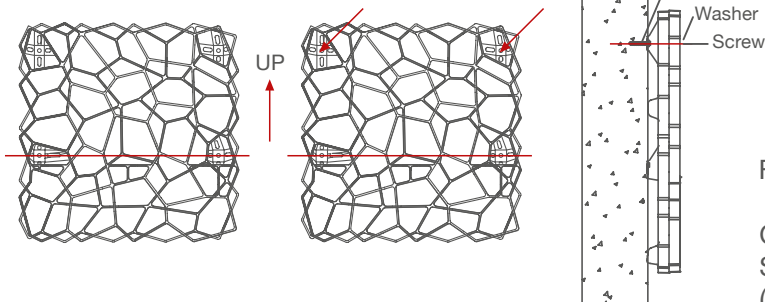

Figure 2: Installation of Wall-Y grid.
- Orientation of the grid according to figure 2 and marking the dowels position with a marker pen;